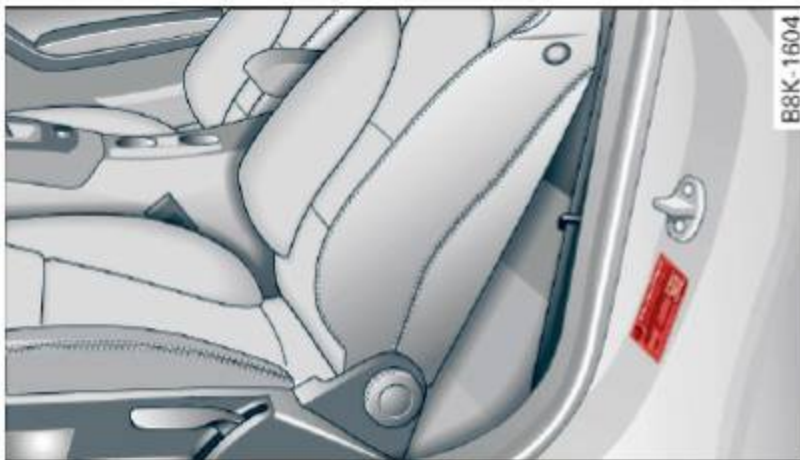

Fig. 176 Tire pressure label: located on driver's side B-pillar
See the illustration ⇒ *fig. 176* for the location of the label on driver's side B-pillar (color of the actual label and exact location on the vehicle will vary slightly).
ing ("GAWR") is the maximum load that can be applied at each of the vehicle's two axles. The Gross Vehicle Weight Rating and the Gross Axle Weight Rating are listed on the safety compliance sticker label located on the driver's side B-pillar. The tire pressure label on your Audi lists the maximum combined weight of all of the occupants and luggage or other cargo that the vehicle can carry. For the location of the tire pressure label ⇒ *fig. 176*.
The tire pressure label on your Audi lists the recommended cold tire inflation pressures at maximum capacity for the new, original equipment tires that were on your vehicle at the time it was manufactured. For the location of the label ⇒ *page 235, fig. 176*.
The tire pressure label on your Audi also lists the maximum combined weight of all of the occupants and luggage or other cargo that the vehicle can carry. For the location of the label ⇒ *page 235, fig. 176*.
1. Locate the statement “THE COMBINED WEIGHT OF OCCUPANTS AND CARGO SHOULD NEVER EXCEED XXX KG OR XXX LBS” on your vehicle’s placard (tire inflation pressure label) ⇒ *page 235, fig. 176.*
3. Subtract the combined weight of the driver and passengers from “XXX” kilograms or “XXX” pounds shown on the sticker ⇒ *page 235, fig. 176.*